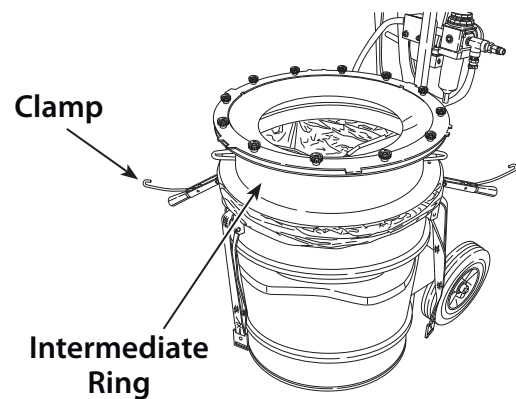

Figure 27
2. Unclamp and remove the intermediate ring from the canister. (Figure 27)